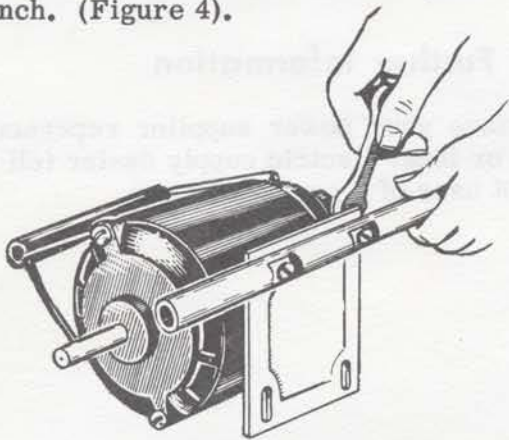

Figure 4
4. Bolt the rail to one edge of the motor base with stove bolts. Place a washer under each nut, then tighten securely with your wrench. (Figure 4).